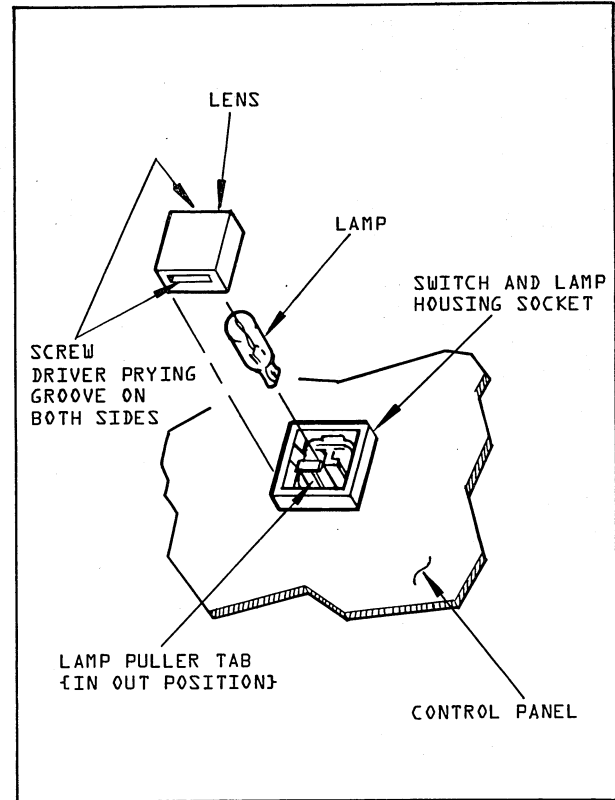

FIGURE 5-42 CONTROL PANEL LENS AND LAMP REPLACEMENT
2. Remove the lens by placing a screwdriver in the groove on the side of the lens and prying up. See Figure 5-42.